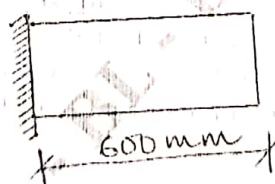

Fig. Q10 (b)
- b. Determine the natural frequency of vibration of the Cantilever beam as shown in Fig. Q10 (b). Take $E = 200 \text{ GPa}$, $\rho = 7840 \text{ kg/m}^3$; $I = 2000 \text{ mm}^4$ and $A = 240 \text{ mm}^2$.